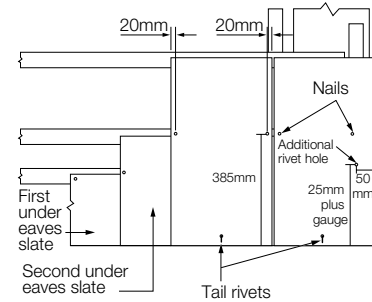

Fig. 15
- First course of full size slates (Fig. 15). All these slates need to be drilled with 3 no. 4mm dia. holes, 2 for shoulder nailing to the batten 20mm in from each edge 385mm from the bottom edge, and 1 drilled along the centre line of the slate and 25mm up from the bottom edge to accept a copper disc rivet, fitted in the course below.